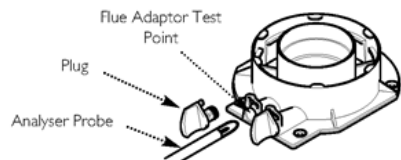

Fig. 75
4. After 1 minute remove the plug from the flue adaptor test point. Insert the analyser probe and allow time for the reading to settle (Fig. 75).